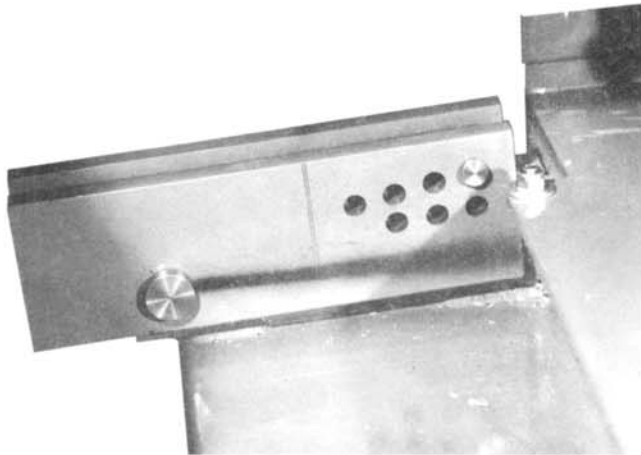

Fig. 7
3. Locate the corresponding hole in the hinge support and insert the clevis pin and secure with the hair pin cotter. See fig. 7.